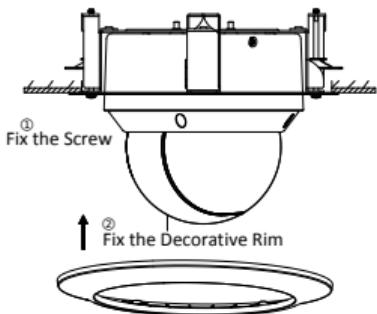

Figure 2-32 Assemble the Decorative Rim
8. Fix the decorative rim with the bubble and the decorative rim will be attached to the in-ceiling bracket automatically, as shown in Figure 2-32.